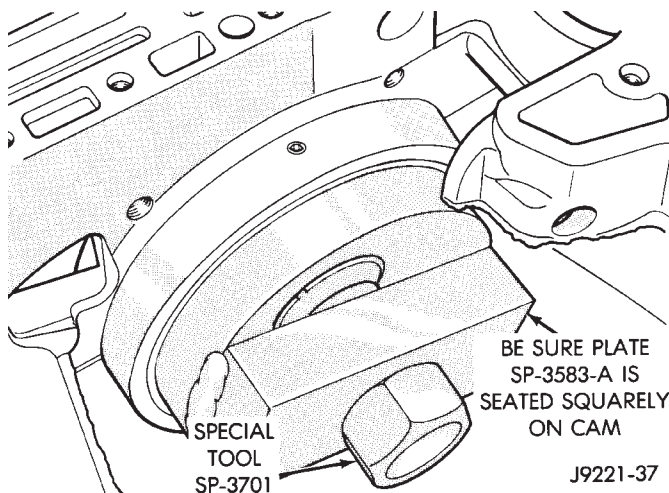

Fig. 150 Positioning Puller Plate On Clutch Cam
(6) Install assembled puller plate and bolt (Fig. 150). Insert bolt through cam, case and adapter tool. Be sure plate is seated squarely on cam.